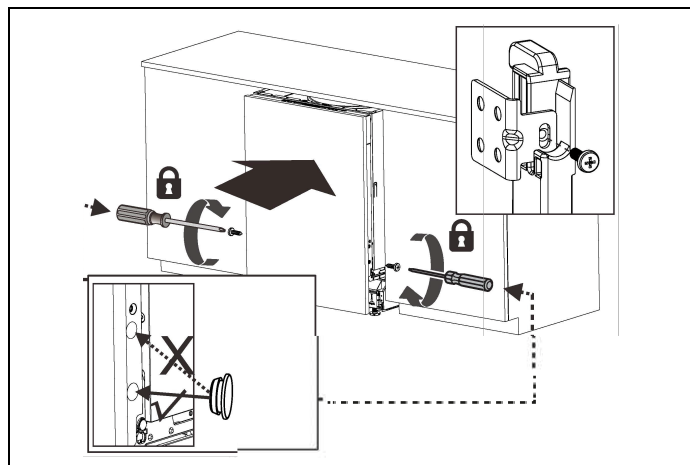

Fig. 18
- 3) After positioning the panel in place, fix the custom door to the outer door of the dishwasher with the two screws provided in the two lower installation holes Fig. 18.